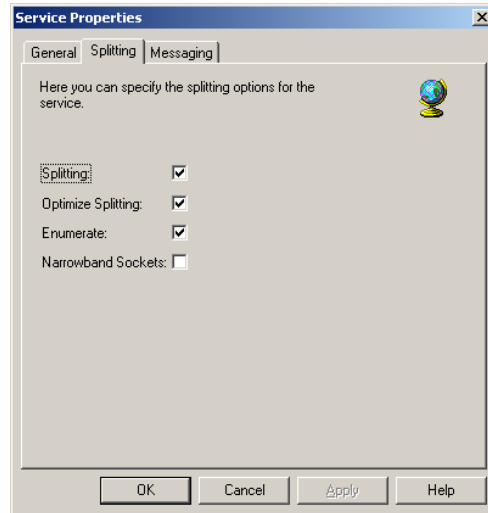

Figure 89. Service Properties Dialog - Splitting Tab
22. Select the **Splitting** tab to produce the view shown in Figure 89.